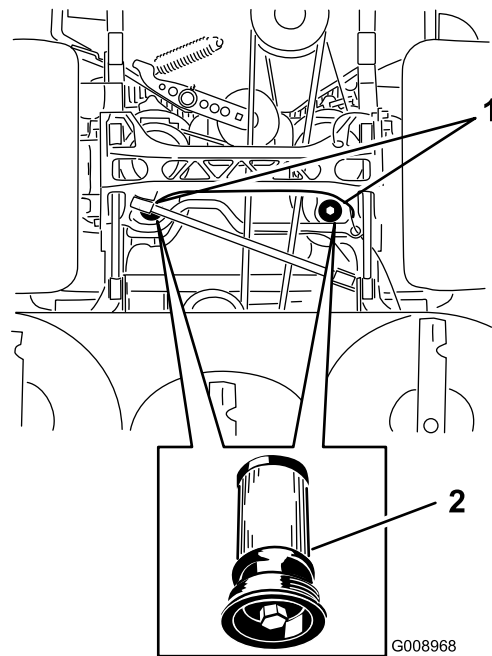

Figure 83
5. Place a drain pan under the filter, remove the old filter, and wipe the surface clean (Figure 83).
6. Apply a thin coat of hydraulic oil to the rubber gasket on the replacement filter (Figure 83).